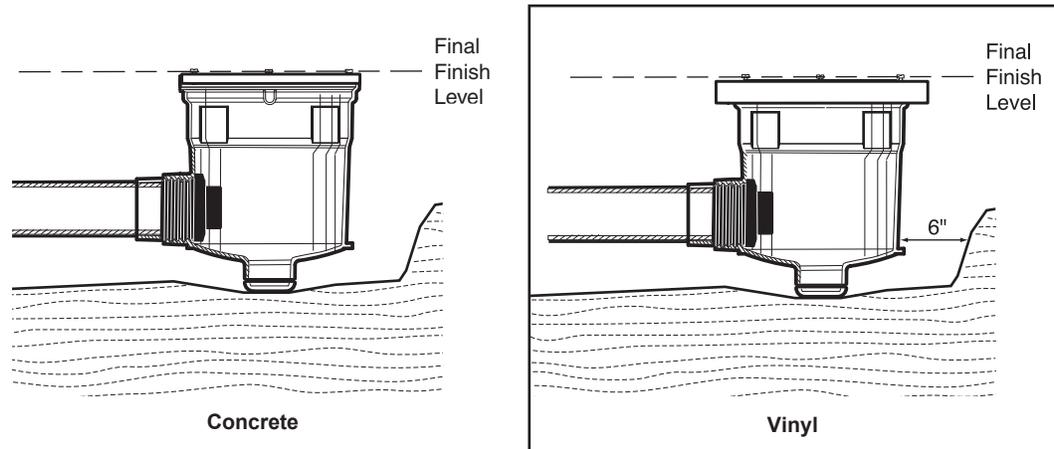

Figure 7. Floor Canister Installation
- Position the floor canister flush with the final finish level of the pool floor (see Figure 7).